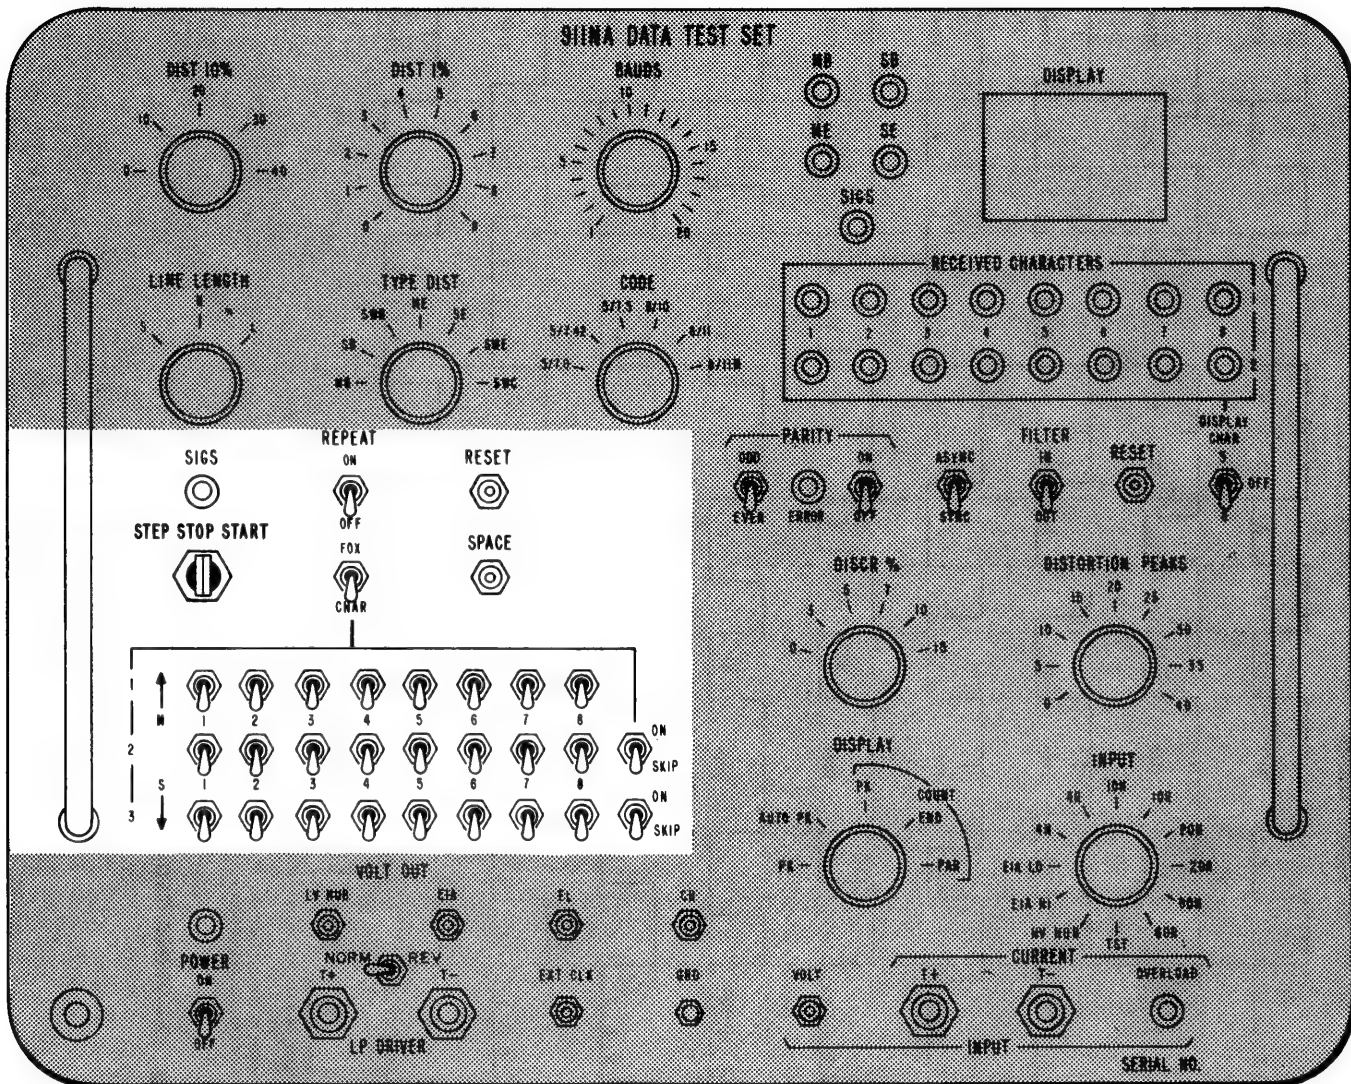

Fig. 13—Location of Switches Governing Test Message Characters
3.19 Figure 13 shows the switches used to transmit the signal generated by the TSG. This signal is either the fox test message or a 1-, 2-, or 3-character selectable message.